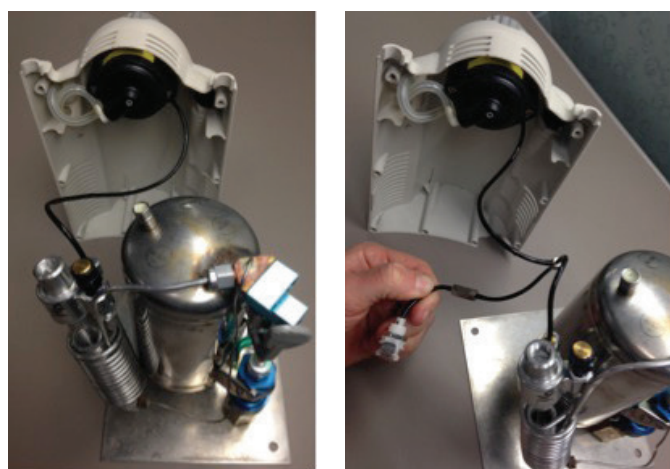

Figure 49: Newer Unit Manufactured without CPC Connector and Fittings (Left). CPC Connector Kit Installed for Testing Purposes (Right).
2. Connect CPC Connector Kit's (PN: 20748595) 7.5" tubing end to inlet barb of Consaver and 3" tubing end to R/E Valve barbed fitting. Refer to Figure 49 for unit without CPC Connector Kit converted to unit with CPC Connector Kit